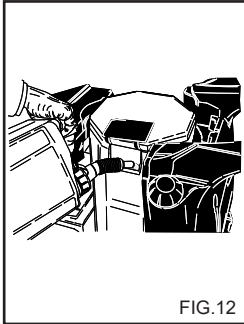

FIG.12
**FREM GANGSMÅTE VED BRUK AV DEFROSTER (fig. 12)**